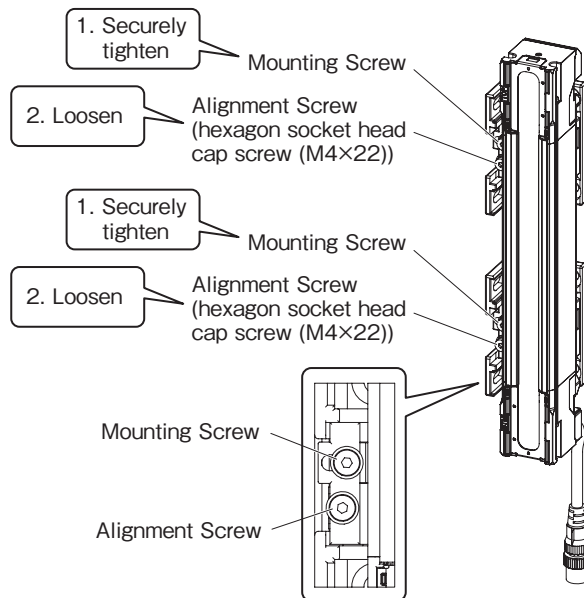

Fig. 3
- 3.** Securely tighten the Mounting Screws to fix the Adjustable Side-Mount Bracket to the yellow area of the sensor housing. The recommended torque to tighten the Mounting Screws is 3.0 N·m. Then loosen the Alignment Screws (hexagon socket head cap screws (M4×22)). (Fig. 3)